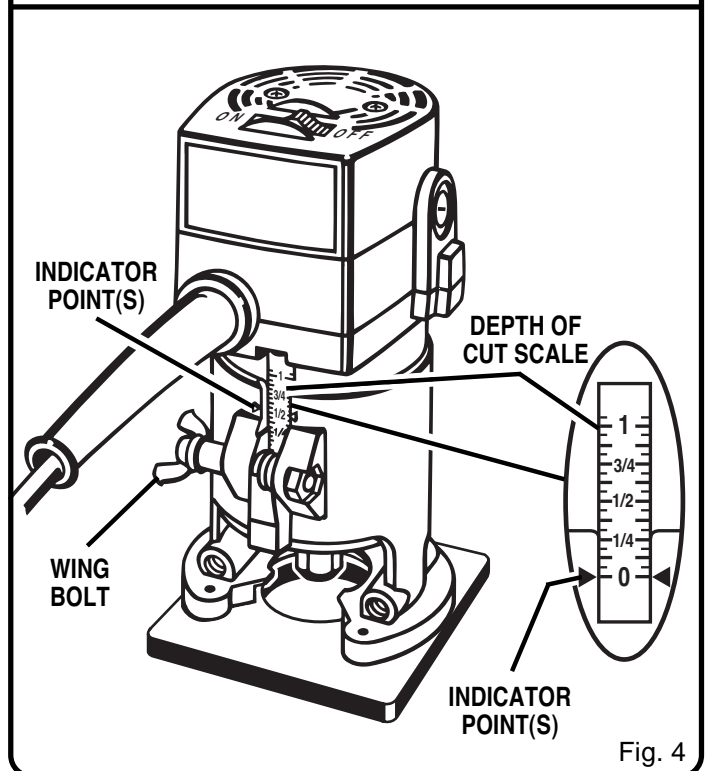

Fig. 4
See Figure 4.
- Loosen the wing bolt and move the base until the tip of cutter touches the work surface. The depth of cut is zero at this point. See Figure 4.